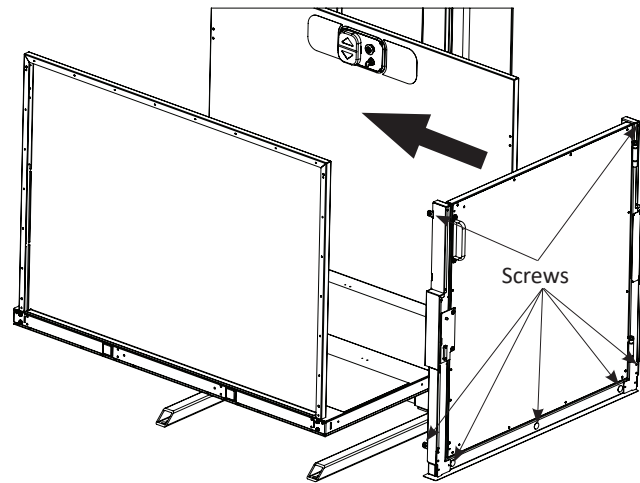

Figure 4-6
2. Install four (4) ¼" -20 x ⅝" screws through tabs in gate frame into threaded holes on platform panels. *See Figure 4-6.*